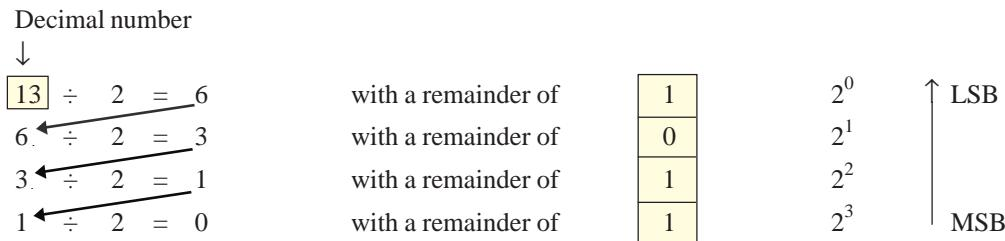

Fig. 26.4
*Divide progressively the decimal number by 2 and write down the remainder after each division. Continue this process till you get a quotient of 0 and remainder of 1, the conversion is now complete. The remainders, taken in reverse order, form the binary number [See Fig. 26.4].*